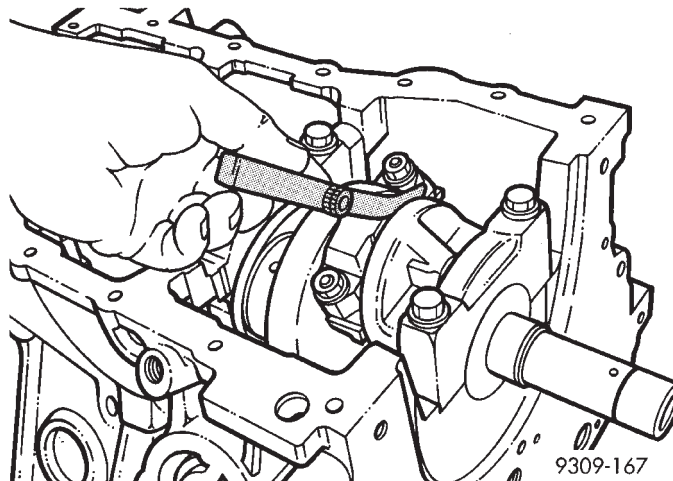

Fig. 18 Checking Connecting Rod Side Clearance
(5) Tighten the nuts to 54 N·m PLUS 1/4 turn (40 ft. lbs. PLUS 1/4 turn).
(6) Using a feeler gauge, check connecting rod side clearance (Fig. 18). Refer to (Fig. 19) for specifications.